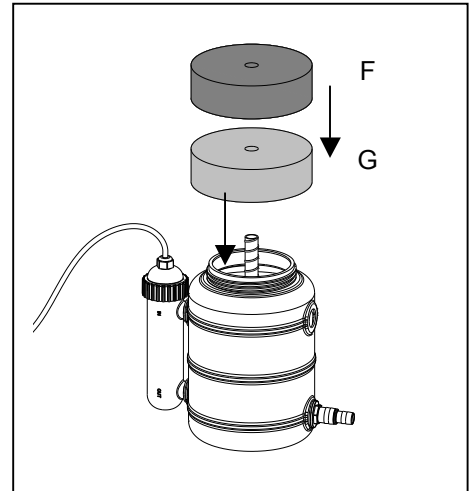

Fig. 4
- Place the fine filter pad inside the tank. Then place the coarse filter pad over the fine filter pad. Fig. 4